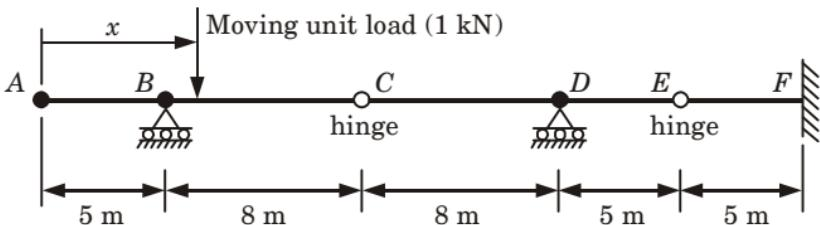

Fig. 32.
**a. By using Muller-Breslau's principle construct influence line diagram for the beam as shown in Fig. 32.**
**Ans.****Given :** Beam shown in Fig. 32.**To Find :** ILD for the given beam.**ILD by Muller-Breslau's Principle :**